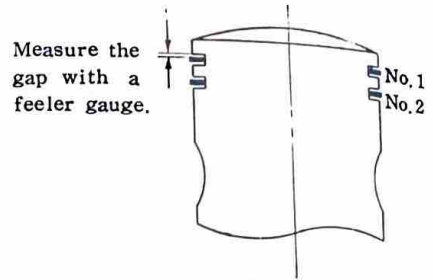

Fig. IV-5-5
**Note:** Clearance between the ring and the ring groove: (Fig. IV-5-5.)